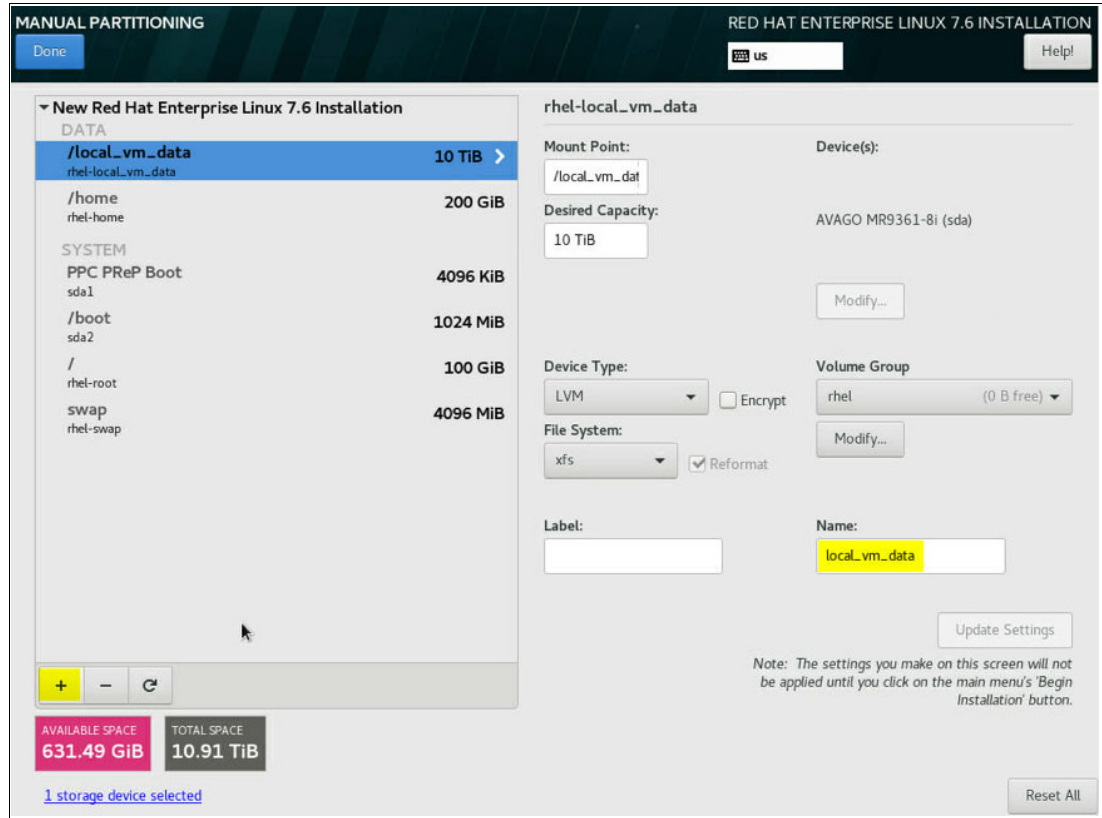
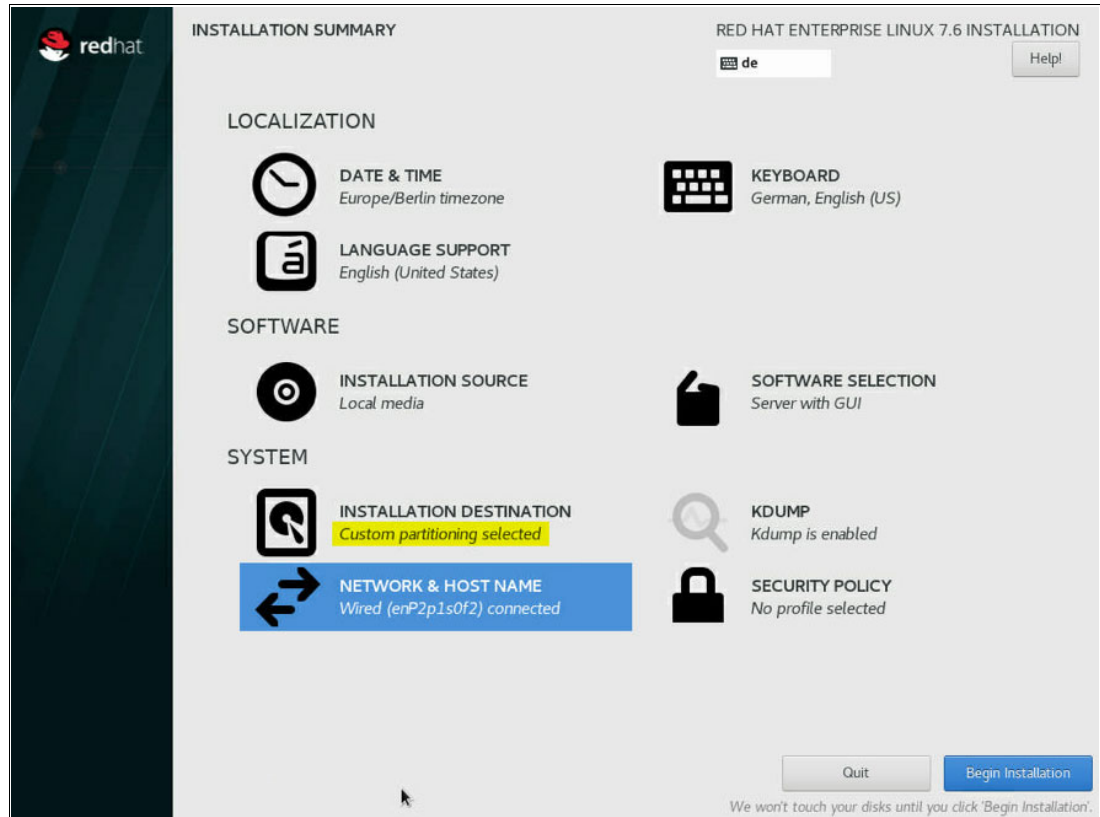

Figure 4-31 Red Hat Enterprise Linux 7.6 Installation window: Customizing the disk layout
Figure 4-32 Red Hat Enterprise Linux 7.6 Installation window: **INSTALLATION SUMMARY**
Figure 4-31 shows the window for customizing the disk layout for the installation.
3. Click **Done** (Figure 4-31 on page 82), and accept the changes that are shown in the **INSTALLATION SUMMARY**, as shown in Figure 4-32.